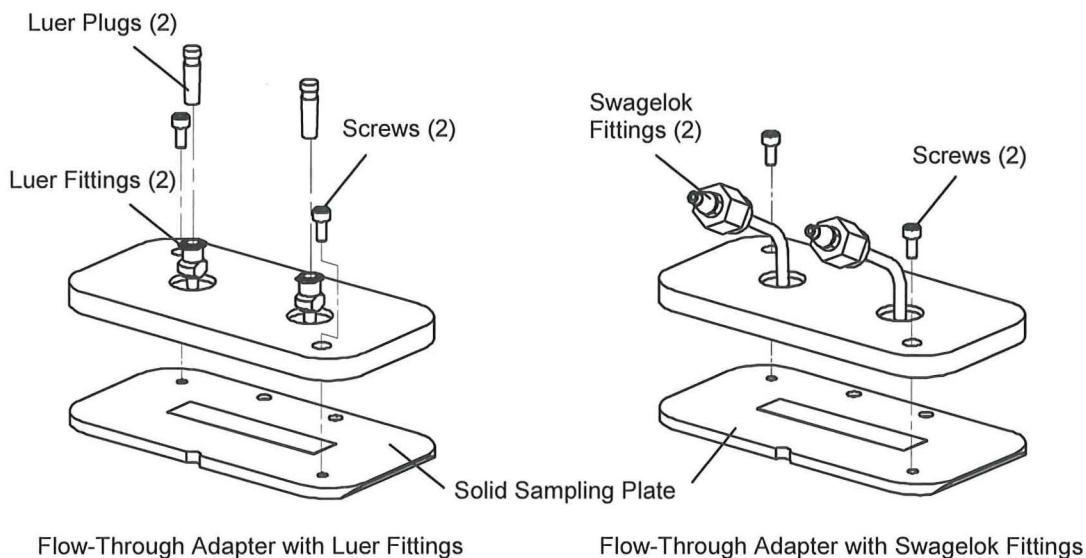

Figure 10 • Installing the Adapters on the Solid Sampling Plate
- Using the supplied 3/32" ball driver and screws secure the adapter to the sampling plate (see Figure 10).